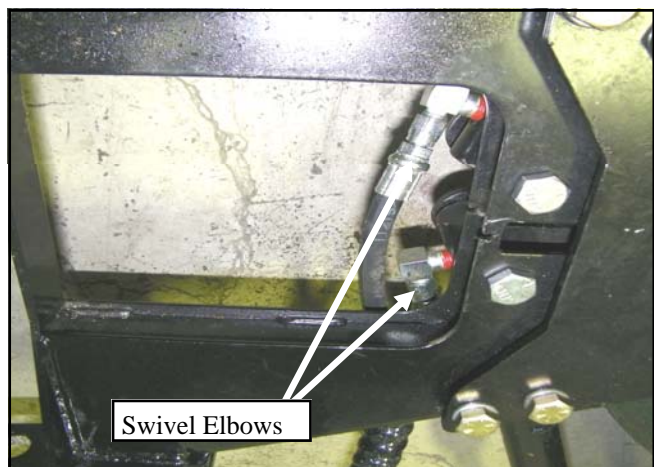

Fig. 14.3 Angle Cylinders fixed End Hose
- 14.4 Attach and tighten the free end of each of the 40" long hydraulic hoses to the swivel elbow in its respective angle cylinder. The hydraulic hose exiting the top of the pump and facing out the front of the pump will be attached to the left side cylinder (drivers side). See Fig. 14.3.